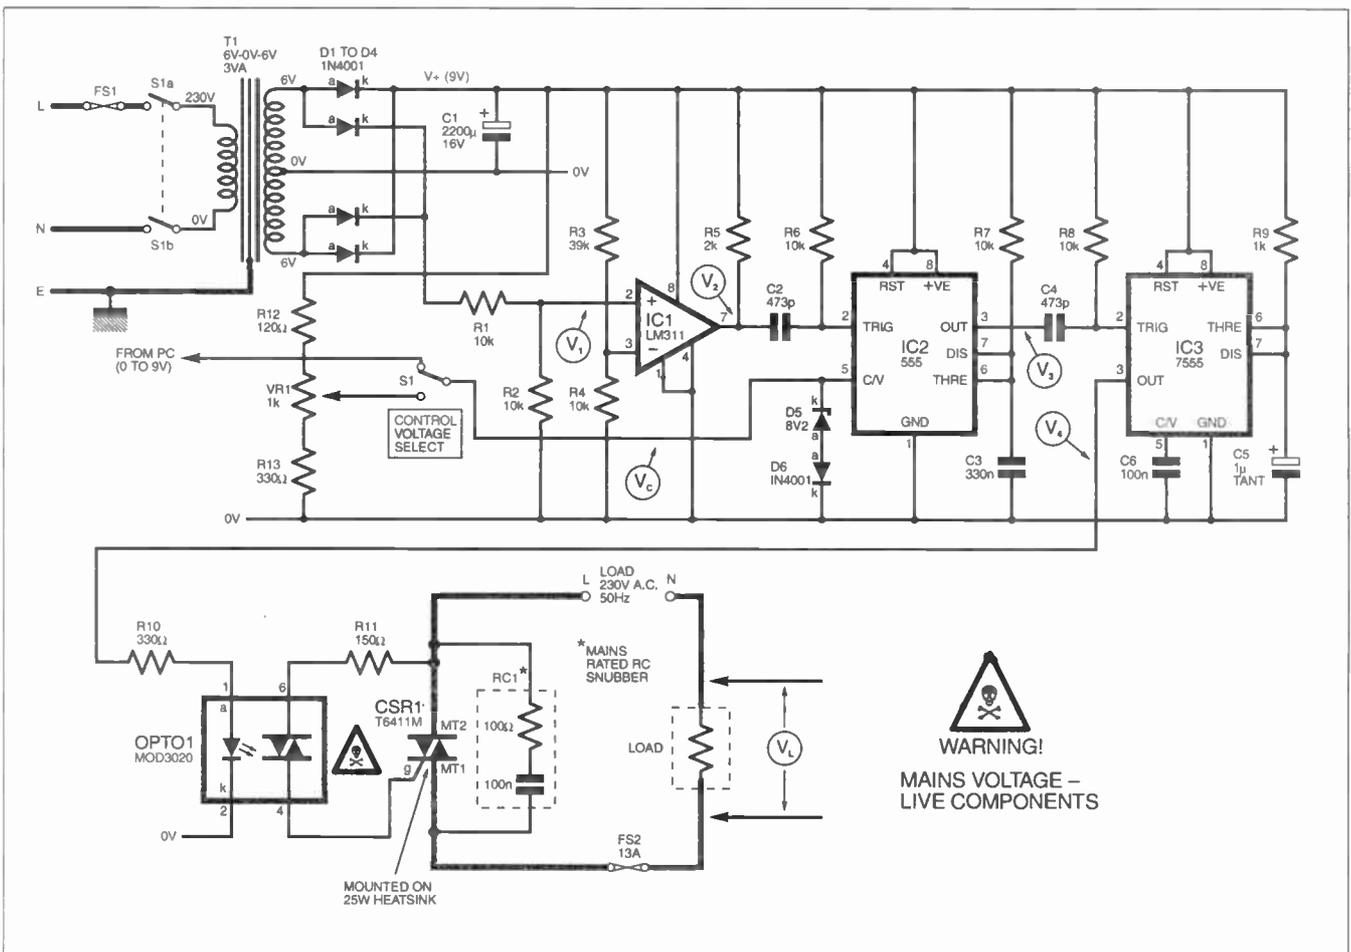

Fig.1. Circuit diagram for a Single-Phase Power Regulator.
**A** CIRCUIT diagram of a low cost single-phase mains power regulator is given in Fig. 1. It is suitable only for experienced and skilled constructors who can assemble mains-voltage circuits competently.